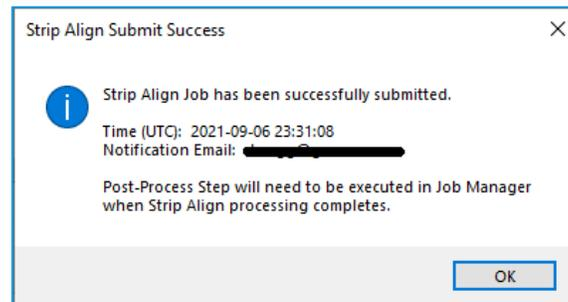

Figure 104 - Strip Align Job Submission Confirmation
3. A successfully submitted job notification will appear confirming the job submission (Figure 104).